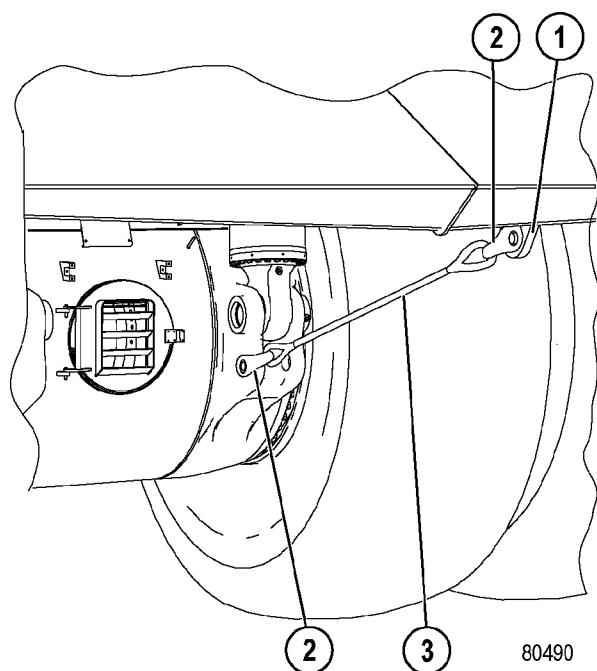

FIGURE 00-3. BODY RETENTION SLING
2. Install two shackles (2, Figure 00-3) and body retention sling (3) between rear body ear (1) and the axle housing.